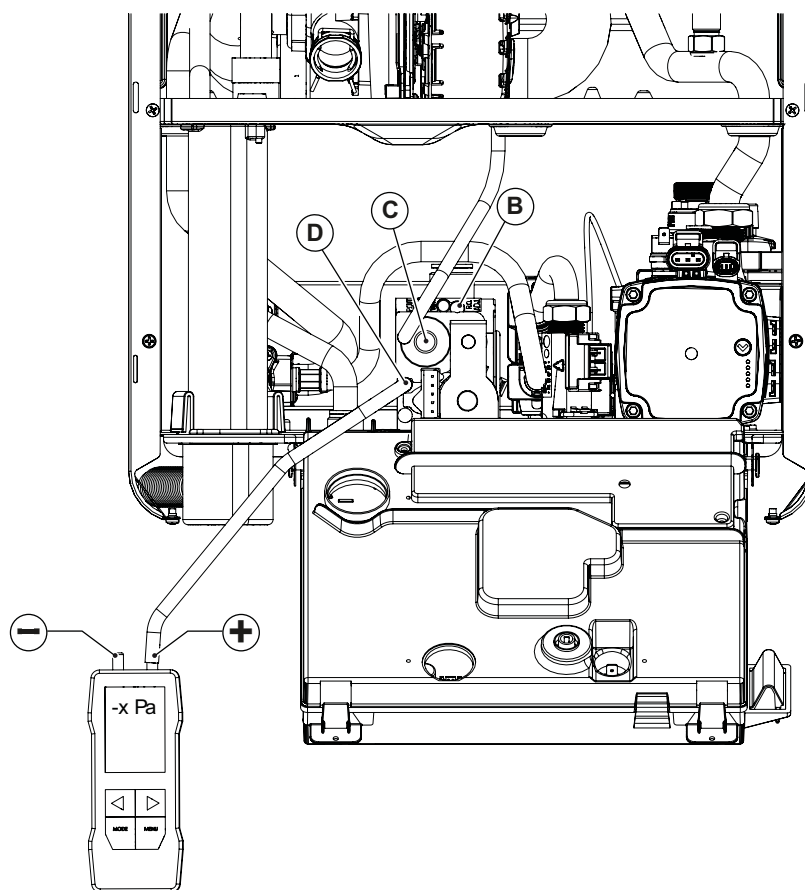

Fig. 36 Offset pressure adjustment
- Open the screw of the offset pressure pick-up point **D** and connect it to the positive input (\*) of the differential pressure gauge (see Fig. 36 Offset pressure adjustment).